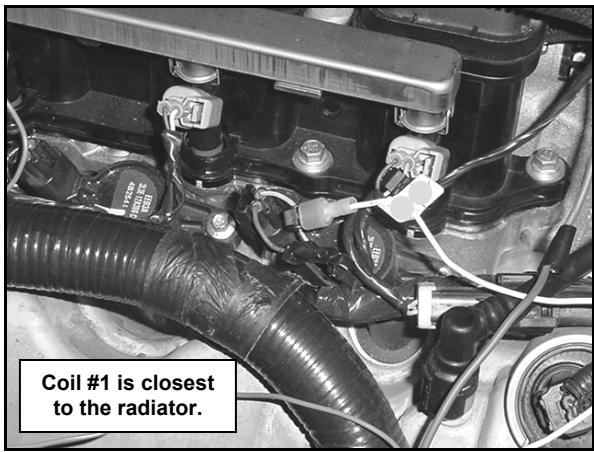

Figure 18
10. Connect the tan wire of the WOT/Window Switch to coil #1 (cylinder 1) on the Mustang (white / pink stripe wire on car). **See Figure 18.**